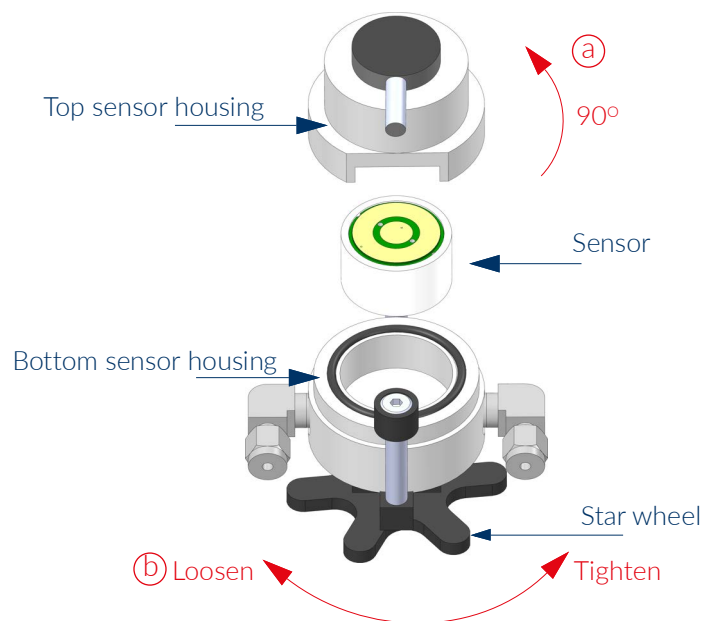

Figure 5. Installing and uninstalling your sensor (GPR-1100 and GPR-1200)
3. Open the sensor housing (refer to Figure 5 below for guidance).
7. Secure it with the star wheel at the bottom of the housing assembly (refer to 'b' in Figure 5 on page 15).